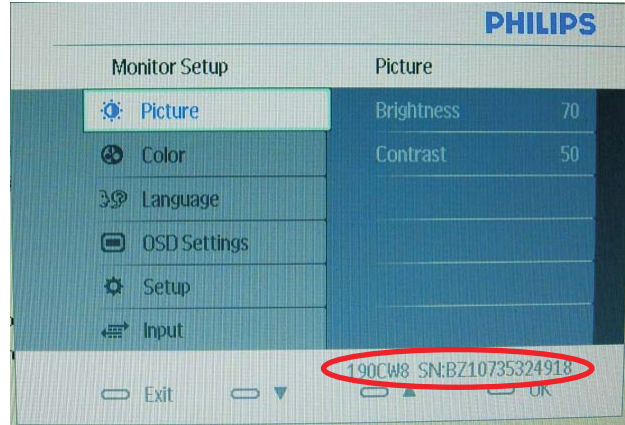

Fig. 24
- Press "MENU" button . The S/N is refreshed in the OSD menu as Fig.24.